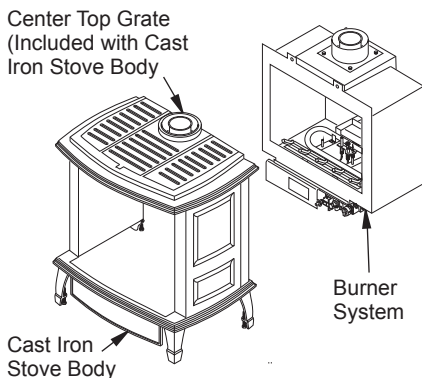

Figure 7 - Installing Burner System Into Cast Iron Stove Body
1. Carefully lift burner system and place into stove body from the rear of stove (Figure 7, page 8).